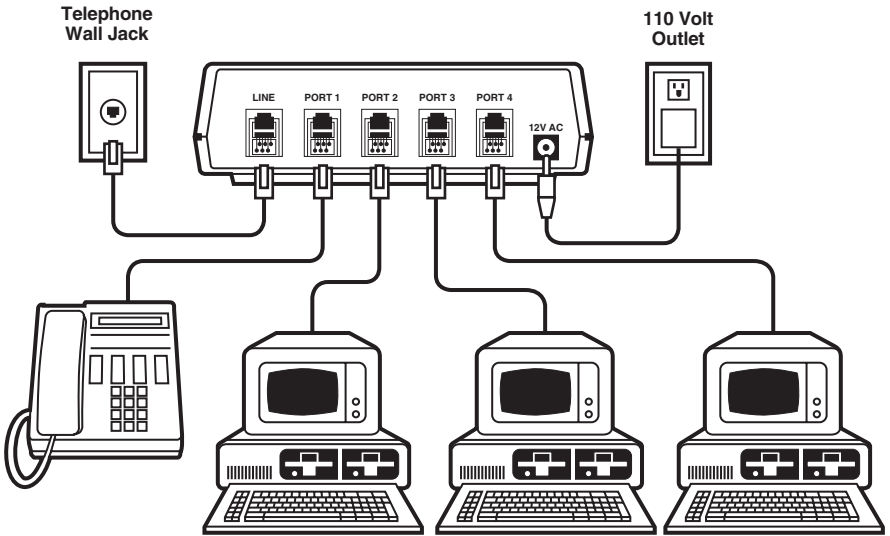
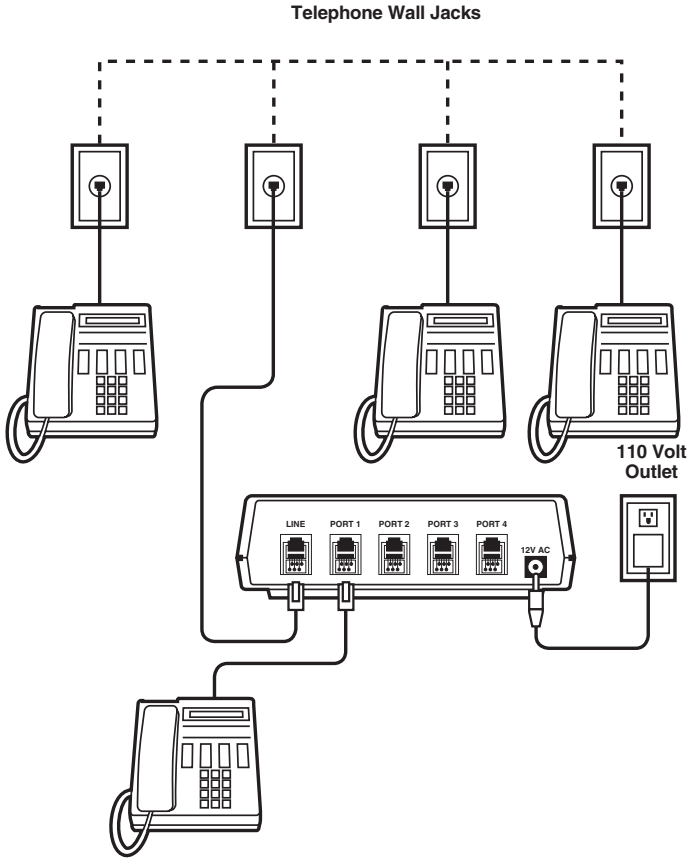

Figure 3-4. Telephone Equipment Connected to the Lineshare Pro in a Single-Phone-Line/Single-Phone Arrangement.
Figure 3-5. Lineshare Pro Installed on an Extension.
Figure 3-4 shows a complete installation for a single phone line/single phone arrangement. While the connections to the wall jack may be different for other types of phone systems, the connections to the Lineshare Pro remain the same for all phone configurations.
Figure 3-4 illustrates only one of many possible configurations. As shown, the Lineshare Pro is configured with a voice priority phone port with three auxiliary ports. You can also configure the Lineshare Pro as a four port secured switching system (see **Chapter 5** for more information).
To connect telephone equipment as shown in **Figure 3-4** to the Lineshare Pro, follow these steps:
extension, choose the extension where it will be located and follow the procedure provided in Section 3.2. Refer to Figure 3-5 to see how to install the Lineshare Pro as an extension. Refer to Figure 3-4 to see how to connect telephone equipment to the Lineshare Pro.
To maintain exclusion, the phone line must terminate at the Lineshare Pro, and all telephone equipment must connect through the back of the Lineshare Pro as shown in **Figure 3-4**.
11. Connect the other telephone equipment as shown in **Figure 3-4**.
All equipment on the last line in rollover (KSU or PBX, fax, computer modem, and so on) must connect directly to the Lineshare Pro as shown in **Figure 3-4**.